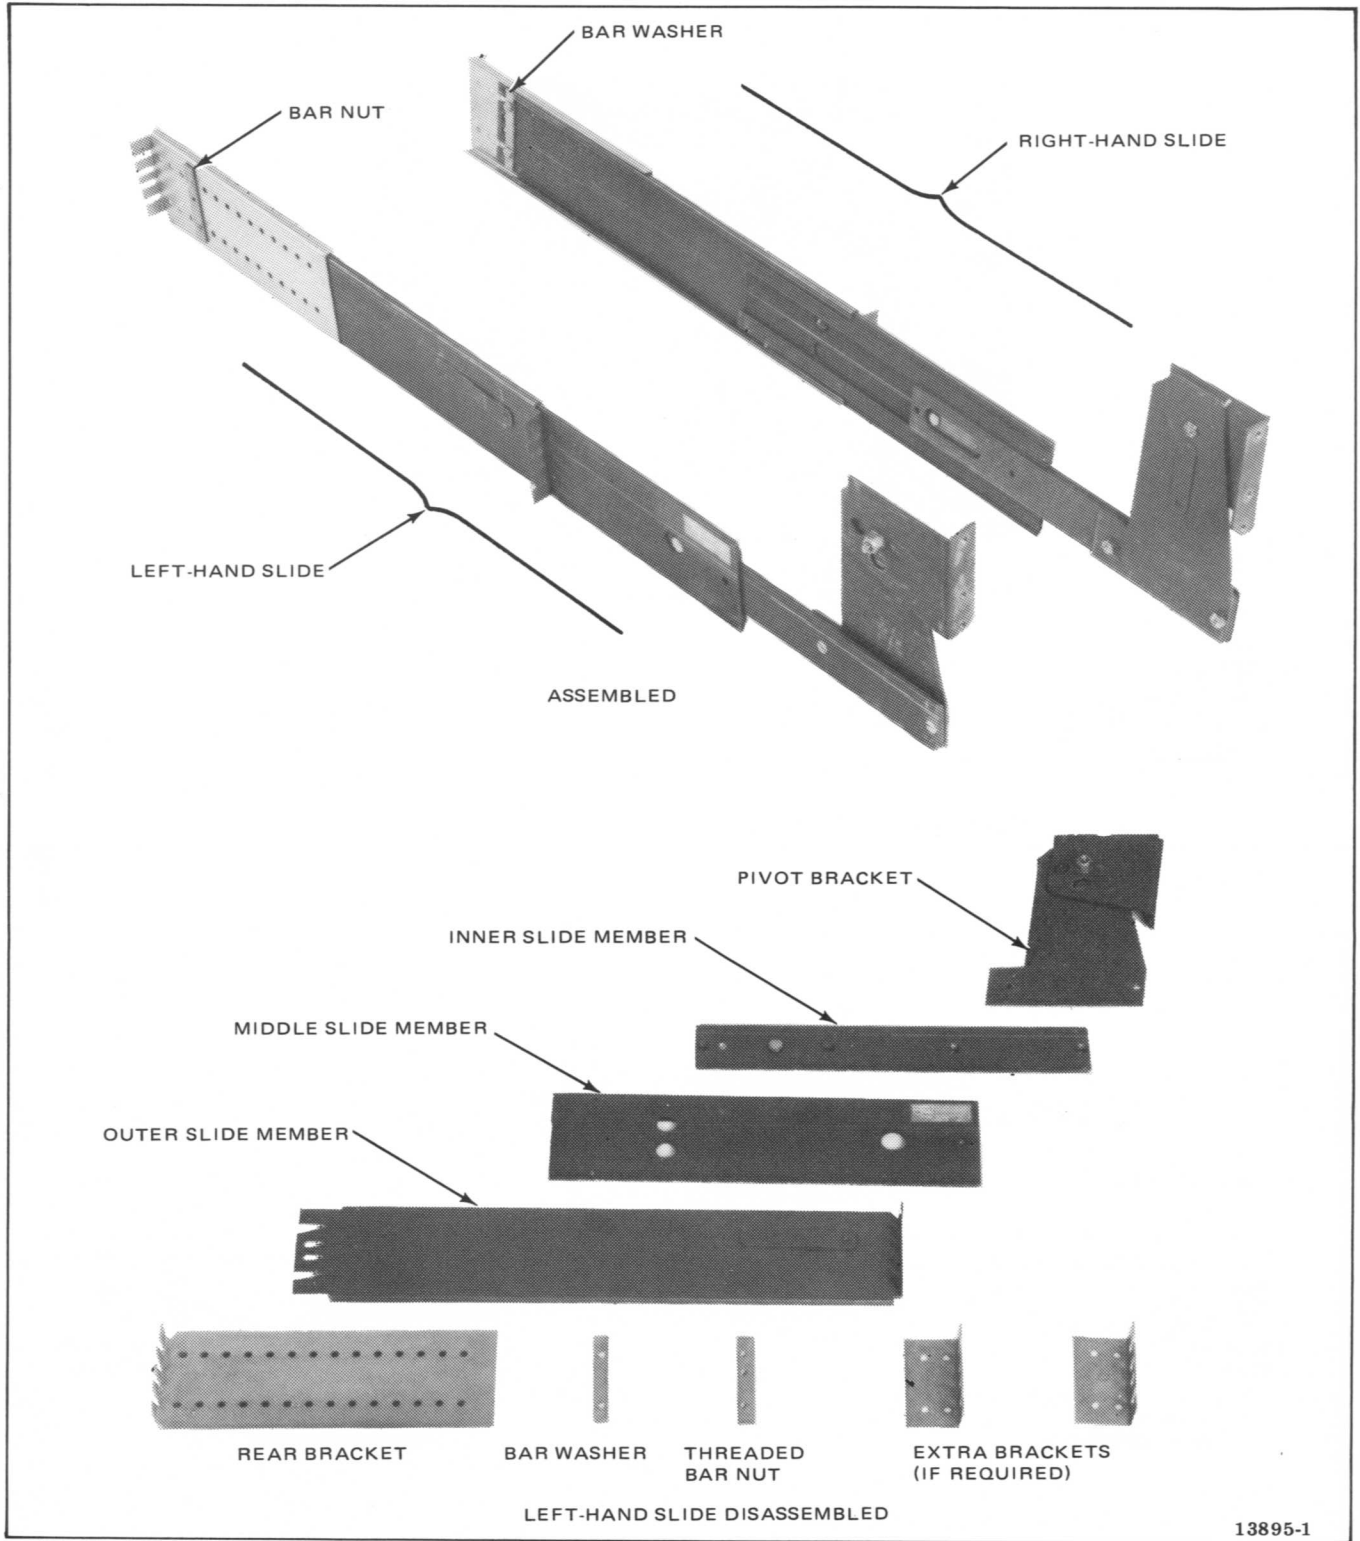

Figure 2-7. Slide Rack Mount Kit
In the slide-rack mount configuration (Figure 1-9), the recorder/reproducer is mounted on a pair of slides (Figure 2-7) that are attached to a 19-inch (48.26 cm) rack that has both front and rear rack-mounting members. When installed, the recorder/reproducer may be pulled forward on the slides and rotated 90° upward to permit easy access to the PWAs within the electronics assembly. The slides enable the transport to be extended far enough from the rack to permit 90° rotation of the transport when 14-inch (35.56 cm) reels are mounted on the transport.
3. Fasten each pivot bracket to the rear of the transport using three 10-32 × 3/4 inch long socket-head screws with a no. 10 split washer under each screw head (do not use flat washers). Note orientation of pivot bracket flange shown in Figure 2-7.
4. If slide-rack mount parts are not separated, press release button on side of inner slide member (Figure 2-7), and remove inner slide member from middle slide member.
8. Slide the slotted flange of each outer slide member (Figure 2-7) between the front rack mounting member and the bar nut installed in step 6. Tighten screws.
10. Fasten the outer slide member to the rear bracket (as shown in Figure 2-7) using a bar washer, bar nut, and two 10-32 × 1/2 inch long binding-head screws.